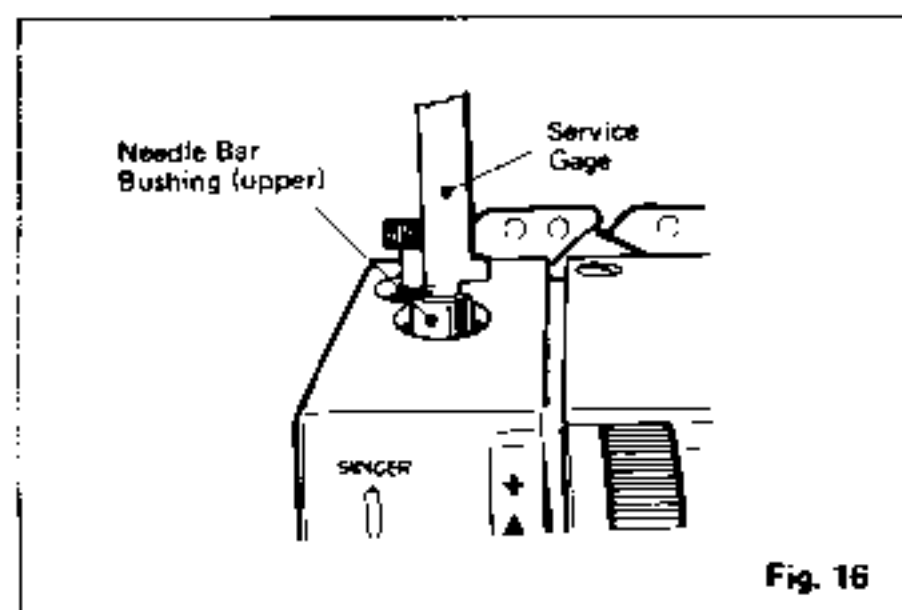

Fig. 16
- Use service gage when setting needle rise. The service gage is calibrated at 0.6mm intervals. Remove needle bar bushing (upper) cap and insert service gage into the needle bar bushing (upper), turn pulley toward you until the needle bar rises three calibration (on the service gage) from its lowest position. This position is the specified 1.8mm needle rise. (Fig. 16)